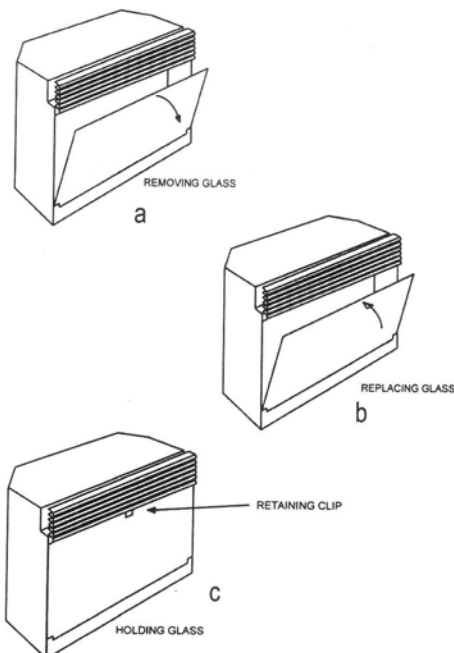

FIGURE 10 (a,b,c)
2. Hold glass in place while removing retaining clip as shown in FIGURE 10 (a,b,c).
2. Fasten retaining clip to hold glass in place. (FIGURE 10)